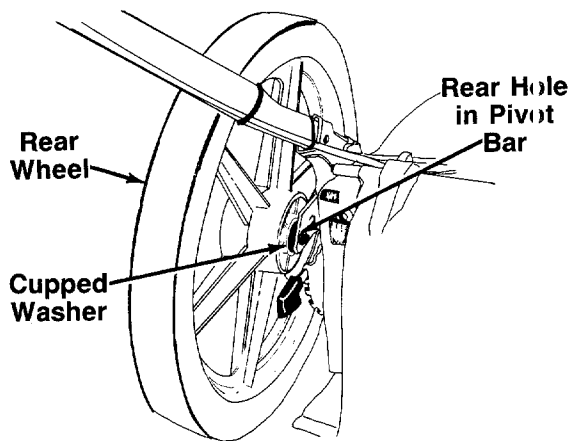

FIGURE 7.
- ← Assemble the rear wheels as follows. See figure 7.